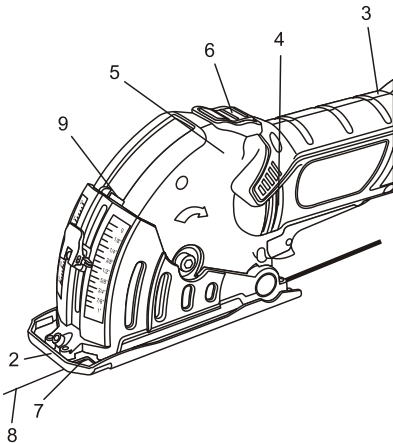

Fig. 8
4. Place leading edge of the blade guard (2) on the workpiece to be cut (Fig. 8).
5. Grasp the tool with two hands. Place your right hand on the body of the tool (3) being careful not to cover the motor vents (4). Place your left hand on the forward part of the tool (5) so your thumb can operate the blade guard release button (6).
6. Line up front cut line indicator (7) with the cutting line marked on the workpiece (8).
8. Using the thumb on your left hand, press the blade guard release button (6) Page 18 Fig. 8.
9. Gently press downward on the front of the tool to raise the blade guard until it touches the depth control stop (9).
10. Re-check the alignment of the front cut line indicator (7) and the cutting line marked on the workpiece (8).